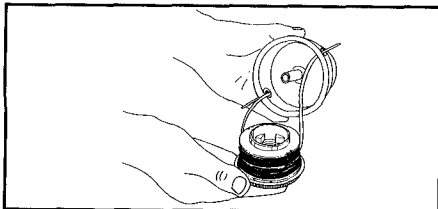

Fig. 28
1. Insert the ends of the two trimming lines into the eyelets in the outer spool (Fig. 28), then grasp the ends and pull firmly to release the line from the holding slots in the outer spool.